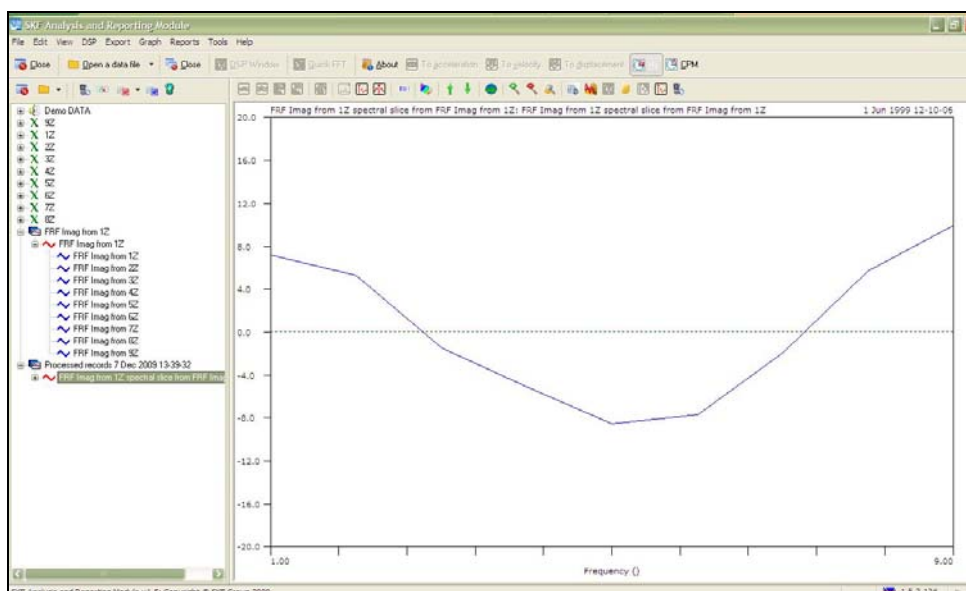

Figure 9. Waterfall slice
9. Move the cursor over the frequency of interest, then right-click and select **Waterfall slice**. [Figure 9]